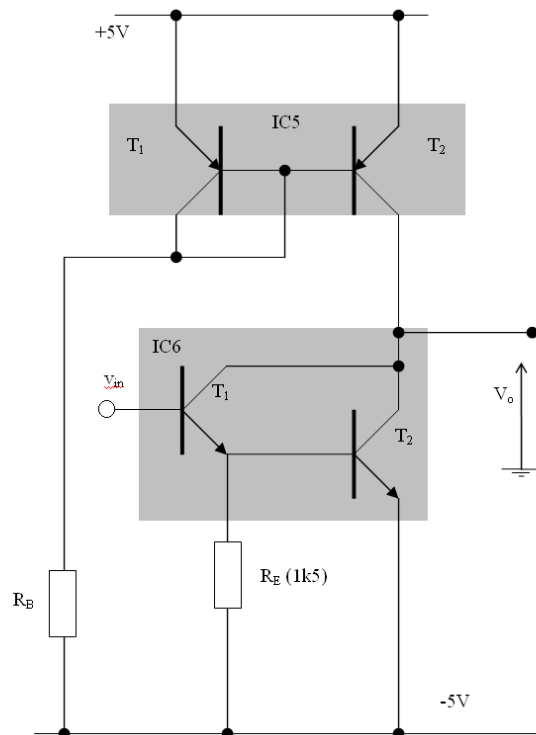
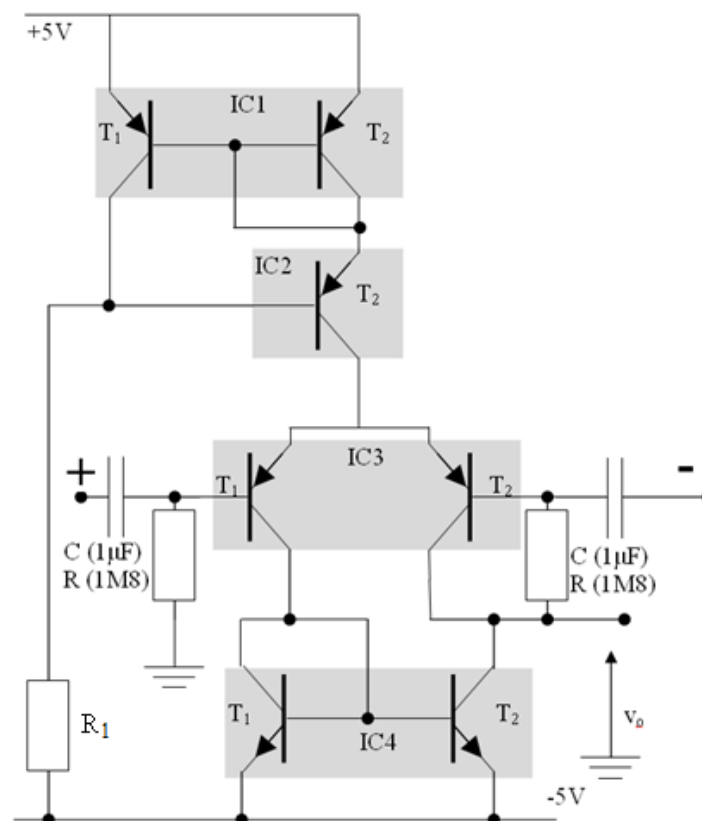
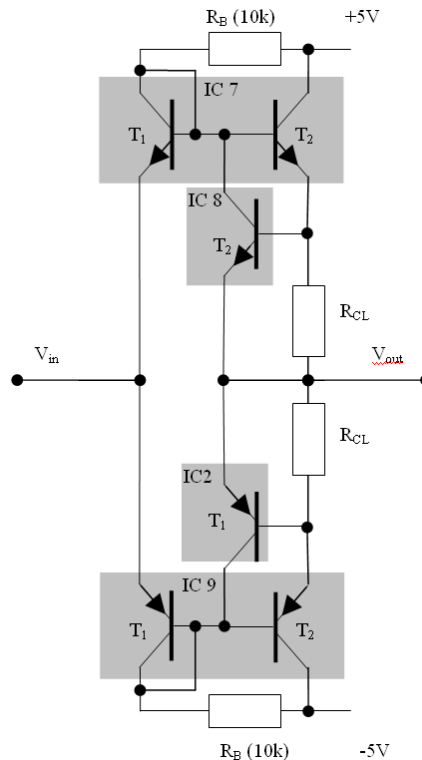

Figure 10 Darlington connection, with active load
Figure 13 Complete input stage
Figure 16 Current limiting circuit
The Darlington connection is shown in Figure 10, replacing the single CE transistor  $T_{2(6)}$  (hence we can keep the same old value of  $R_B$ ).
In the high voltage gain circuit (Figure 13), the simple current mirror (met earlier in section 5, but now in NPN format) performs two functions:
Consider the top half of the power amplifier (Figure 16): when  $T_{2(7)}$  is active and conducting current through the load,  $T_{2(8)}$  will remain off.  $T_{2(8)}$  will only come on when the current through resistor  $R_{CL}$  is sufficient to cause a voltage drop of greater than about 0.6V, and hence forward bias  $T_{2(8)}$ .  $T_{2(8)}$  will conduct and 'rob' current from the base of  $T_{2(7)}$ . The load current will thus remain fixed at approximately  $0.6/R_{CL}$ . This is the output current limit of the amplifier and is set by resistor  $R_{CL}$ .
So far you have been exposed to some of the basic analogue building blocks. We shall now see how these blocks can be arranged and connected together to form a complete op-amp. Block (1) is the differential input amplifier (see Figure 13). Block (2) is the high gain single-stage amplifier (see Figure 10), and block (3) is the output stage power amplifier (Figure 16). Before we connect the blocks together there are certain biasing components to be removed, as these were only required for stand-alone testing.
- i. In Block (1) (Figure 13) remove the two 100k resistors and the input capacitors ( $1\mu\text{F}$ ).
- ii. In Block (3) (Figure 16) remove the two  $R_B$ 's (10k).
- iii. Connect the output of Block (1) to the input of Block (2) ( $V_{o1}$  to  $V_{in2}$ ). This creates the very high differential gain stage of the op-amp.